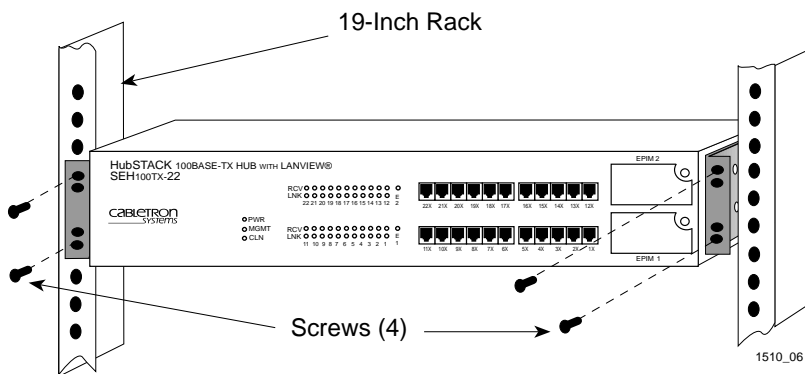

Figure 4-4 Installing the SEH in the Rack
3. Ensure that the rack used will support the unit, and that the rack will remain stable with the unit installed in it. Support the SEH securely from underneath, and align the mounting brackets of the SEH chassis with the screw holes in the equipment rack as shown in Figure 4-4. Fasten the SEH to the equipment rack securely.